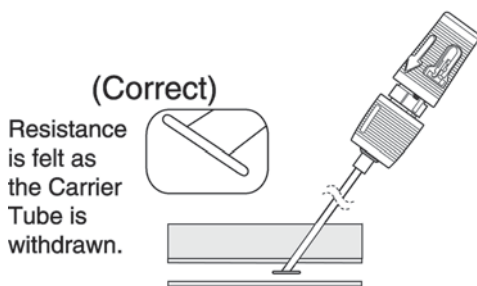
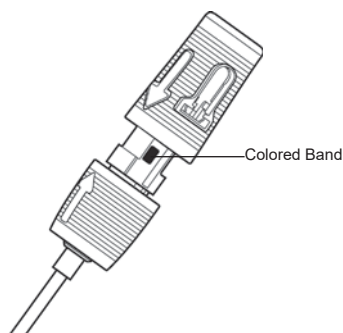
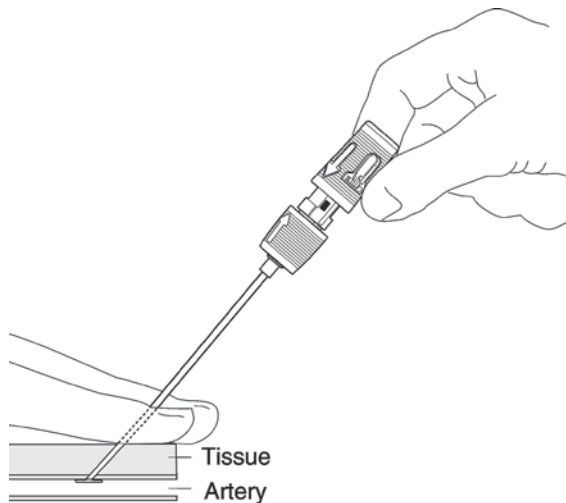

Fig. 9 (Correct)
Fig. 10
Fig. 12
- Maintain grip on the insertion sheath and pull the device handle straight back into the full rear locked position (Figure 10). Resistance will be felt as the device handle and sleeve snap lock. The device sleeve colored bands should now be completely visible.
NOTE: Do not proceed until you are certain that the anchor has been properly deployed (Figure 9). If the anchor is improperly deployed, the Angio-Seal™ device will not function.
1. Once the anchor has been deployed correctly (Figure 9), and the device cap has been locked into the rear position (Figure 10), slowly and carefully withdraw the device/sheath assembly along the angle of the puncture tract to position the anchor against the vessel wall (Figure 12).